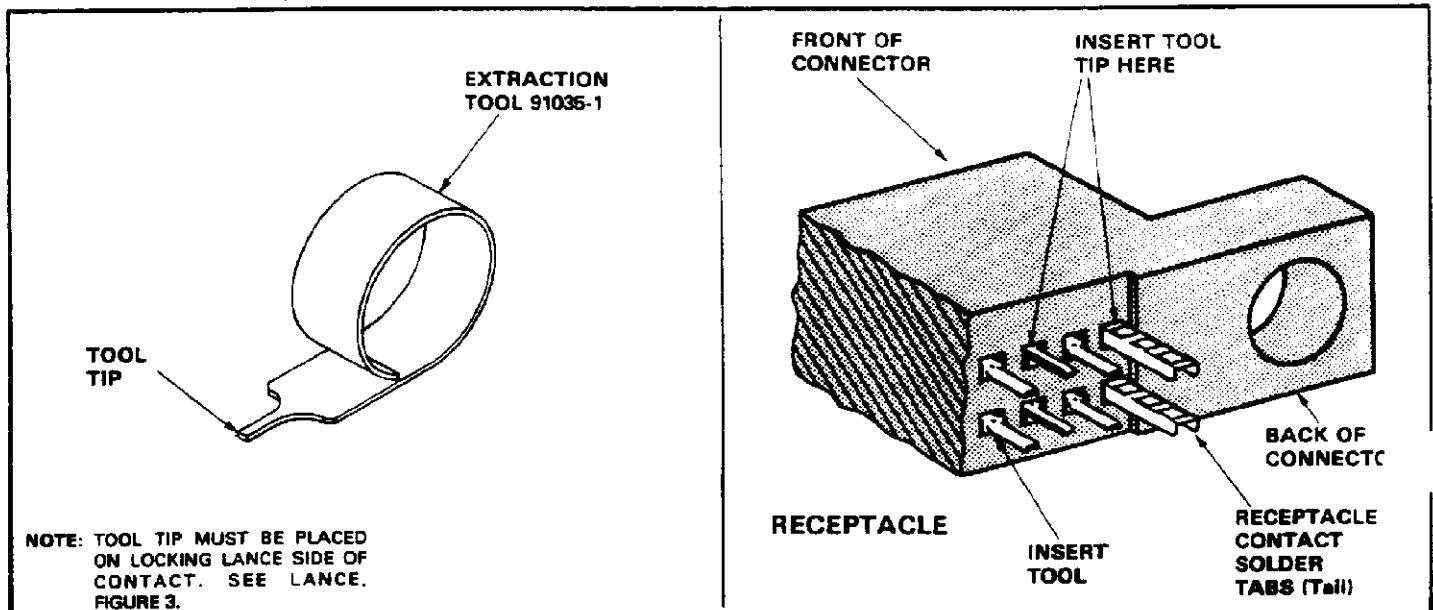

Fig. 16
**C. Extracting Contacts (excluding .022 x .027 double-latch posts) from Receptacle Assemblies (Figure 16)**
- 2. Slide the tool tip into the contact cavity as indicated in Figure 16. This will depress the contact lance and allow easy removal of the contact through the front of the connector.